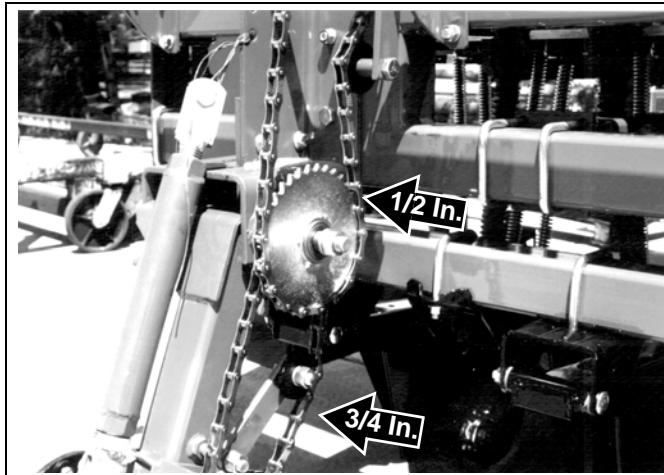

Figure 4
5. Move the idler arms into chains. See Figure 4 for correct chain slack.